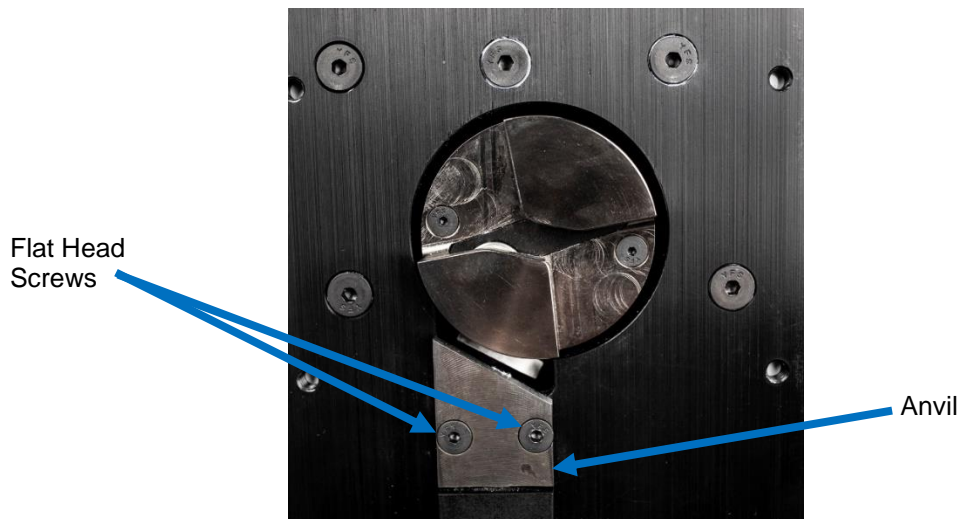
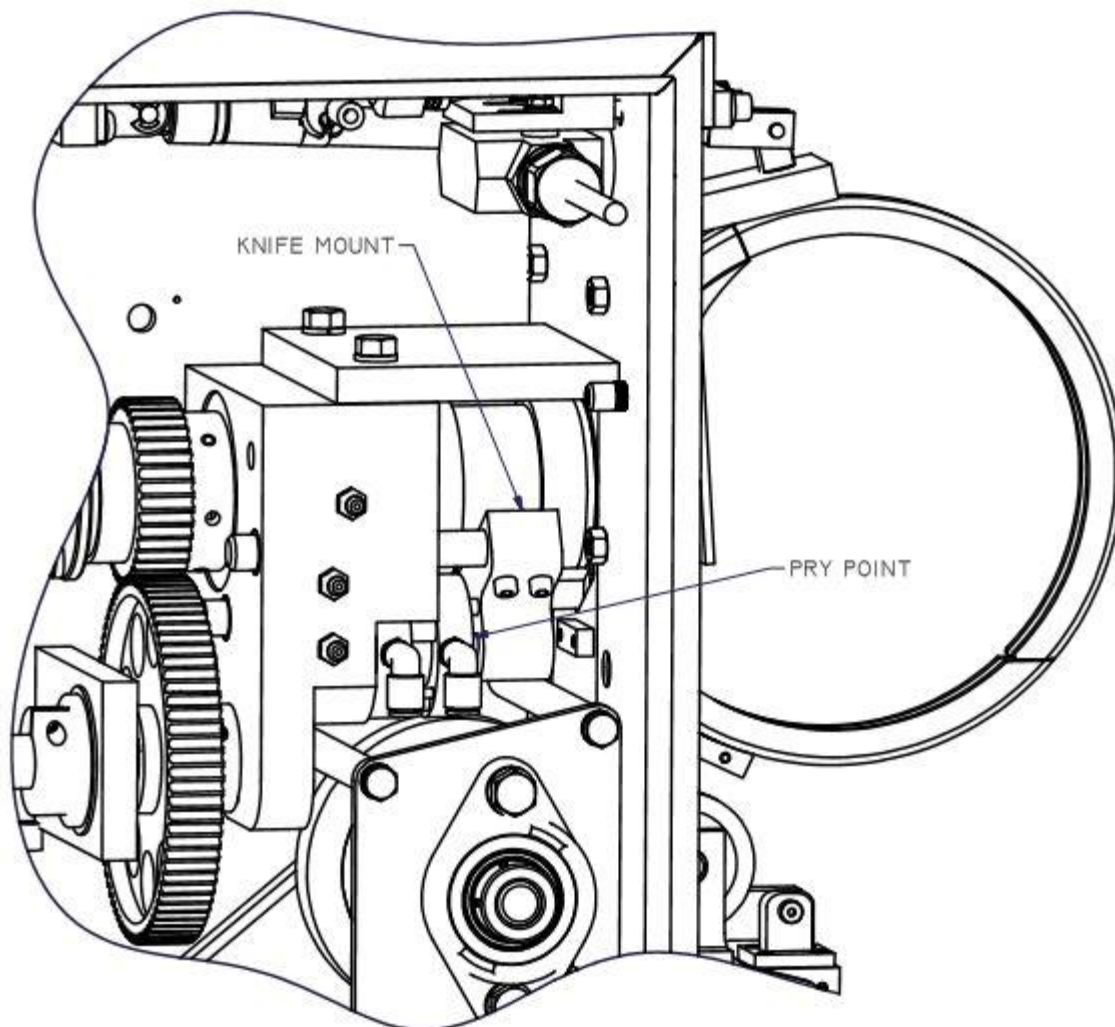

Figure 4.1.1 Anvil on Feed Plate
Figure 4.1.2 Knife Mount Location
(Reference Figure 4.1.1, Figure 4.1.2, & Figure 4.1.3)
4. Remove the feed ring assembly from the feed plate. Refer to section 6.1 Feed Ring (pg. 37) for details. The anvil can be seen on feed plate below the twister head. Reference Figure 4.1.1.